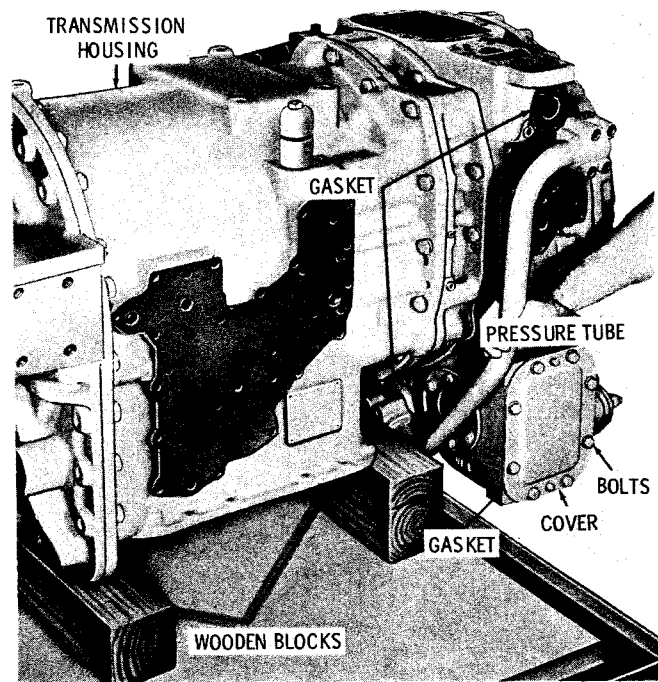

Fig. 5-9. Removing input oil pump pressure tube
(13) Lower transmission (fig. 5-9) to rest on wood blocks, and remove eight bolts and lockwashers from input oil pump pressure tube. Re-